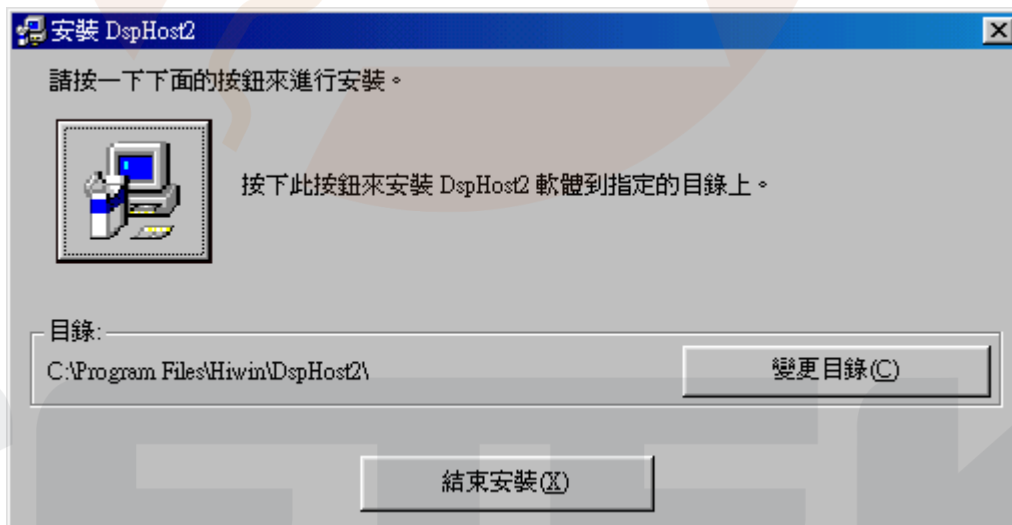
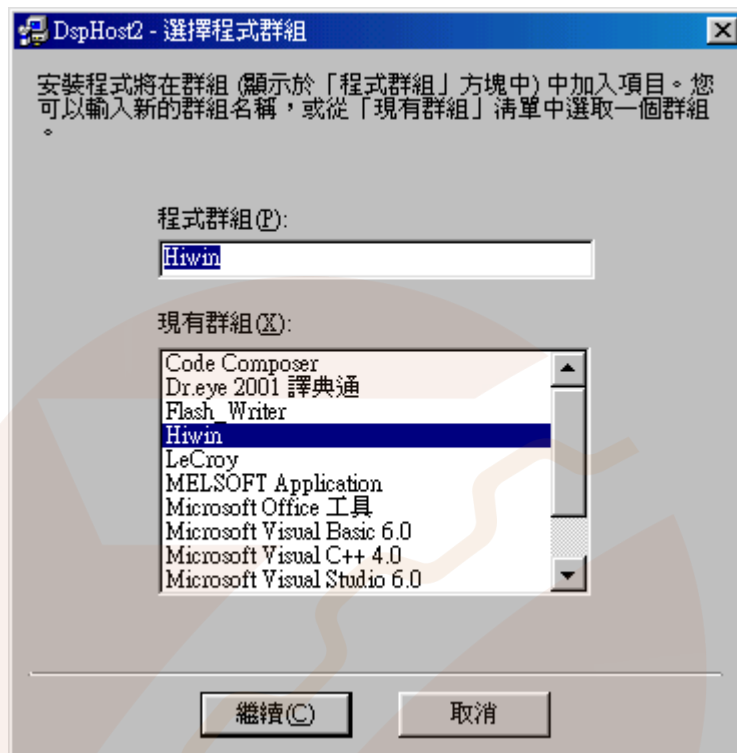
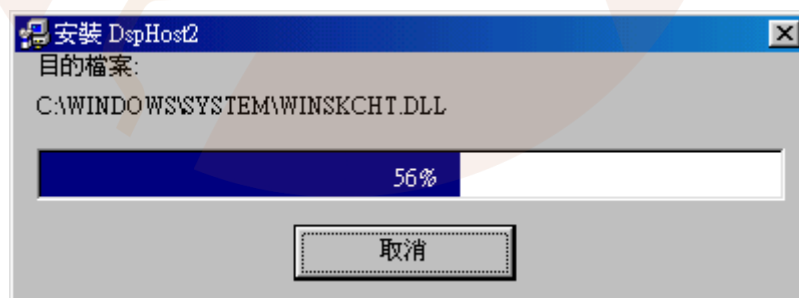

Fig. 2
Fig. 3
Fig. 4
2. Click OK to confirm and Fig. 2 shows up.
3. As shown in Fig. 2, the default directory for installation is C:\Program File\Hiwin\DspHost2\, it is also possible to change the directory. Clicking the install icon, it will start installing DspHost2 and Fig. 3 shows up.
4. Click Continue in Fig. 3. Then Fig. 4 shows starting installation of DspHost2